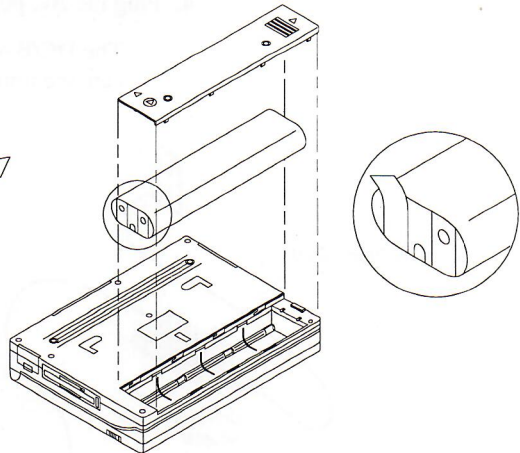

Figure 1-5
3. Lift out the battery pack and peel off the protective mylar insulator from the battery pack's terminals. Refer to Figure 1-5.